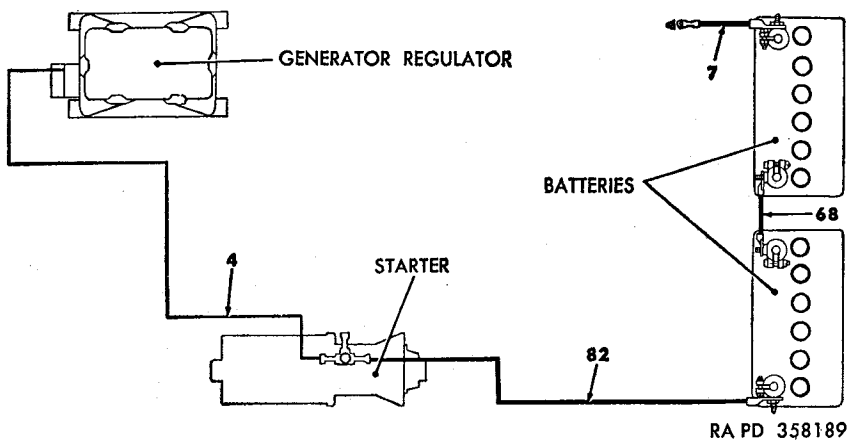
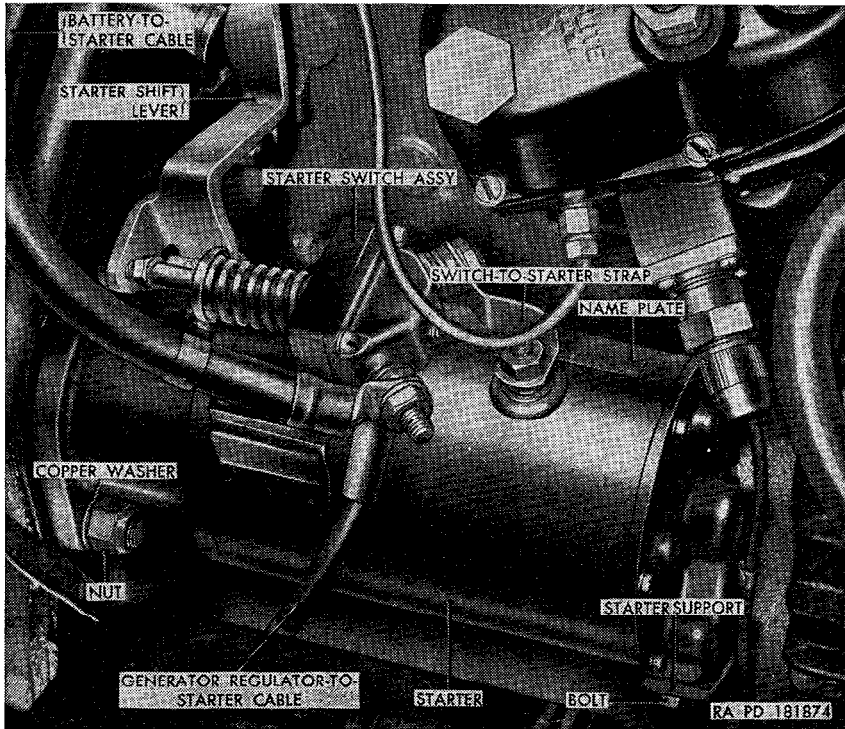

Figure 85. Starting system components and cables identification (M38A1).
Figure 87. Starter assembly—installed.
*a. Description.* The starting system (figs. 85 and 86) consists of the starter, starter switch and starter pedal, connecting electrical cables, and batteries. The auxiliary power cable receptacle with connecting cables, a part of the winterization kit, is considered a part of the starting system when a booster battery or an outside power source is used to assist in starting the engine. Refer to paragraph 162 for information relative to the batteries. A four pole, four brush, water-proof starter assembly (fig. 87) is mounted on the right side of the engine. The starter switch, an integral part of the starter, is mounted on top of the starter. A spring-loaded-type starter pedal (V, fig. 11), which extends from the driver's compartment into the engine compartment, functions to move the starter shift lever. Movement of the starter shift lever (fig. 87) shifts the starter drive pinion into engagement with the engine flywheel and also closes the starter switch contacts. The starter is equipped with an overrunning clutch-type drive which automatically disengages the starter drive pinion from the flywheel when the engine is started.
(fig. 87)